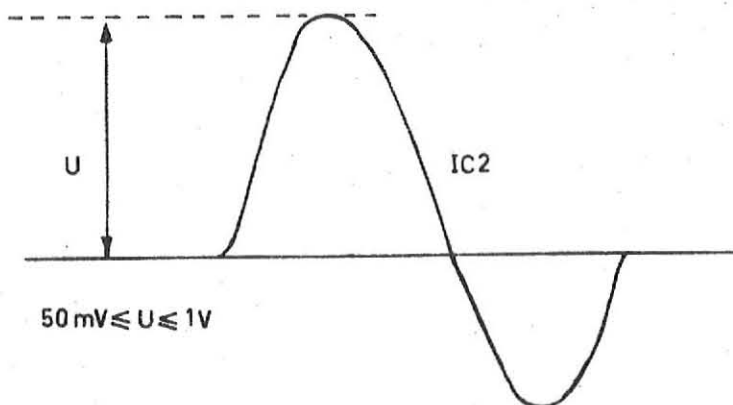

Figure 7-24
4. Check if the signal in the oscilloscope is the same as fig. 7-24